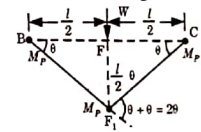

Fig. 29.
- a. Beam mechanism is shown in Fig. 29.